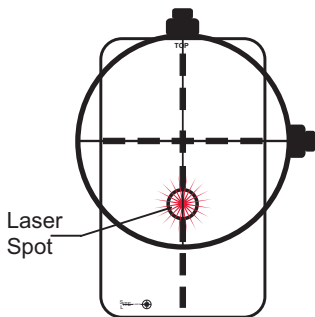

Fig. 1
4. Set the scope at low power and switch on the boresighter. Adjust the position of the firearm to center the laser within the “Laser Target” located below the dotted line crosshair on the target (See Fig. 1.)
5. Insure that the firearm does not move and that the laser remain centered in the target while making adjustments. Adjust the scope crosshairs or other type sights to align as shown in Fig. 1 & 2
- Rotate the scope & adjust the windage to align the crosshair with the laser line. (Fig. 1)